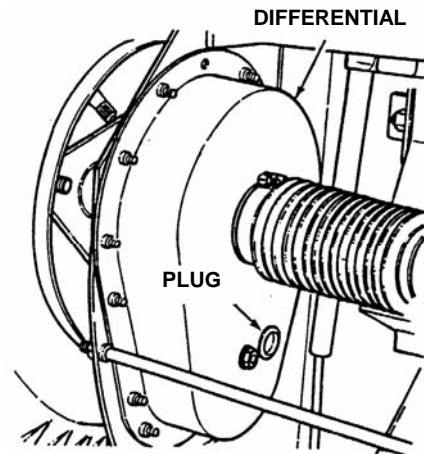

FIGURE 3.8
2. To check lubricant, remove fill/level plug and visually inspect for lubricant on the internal parts of the differential. If no lubricant is visible on the internal parts of the differential, add transmission grease as needed. See Figure 3.8.